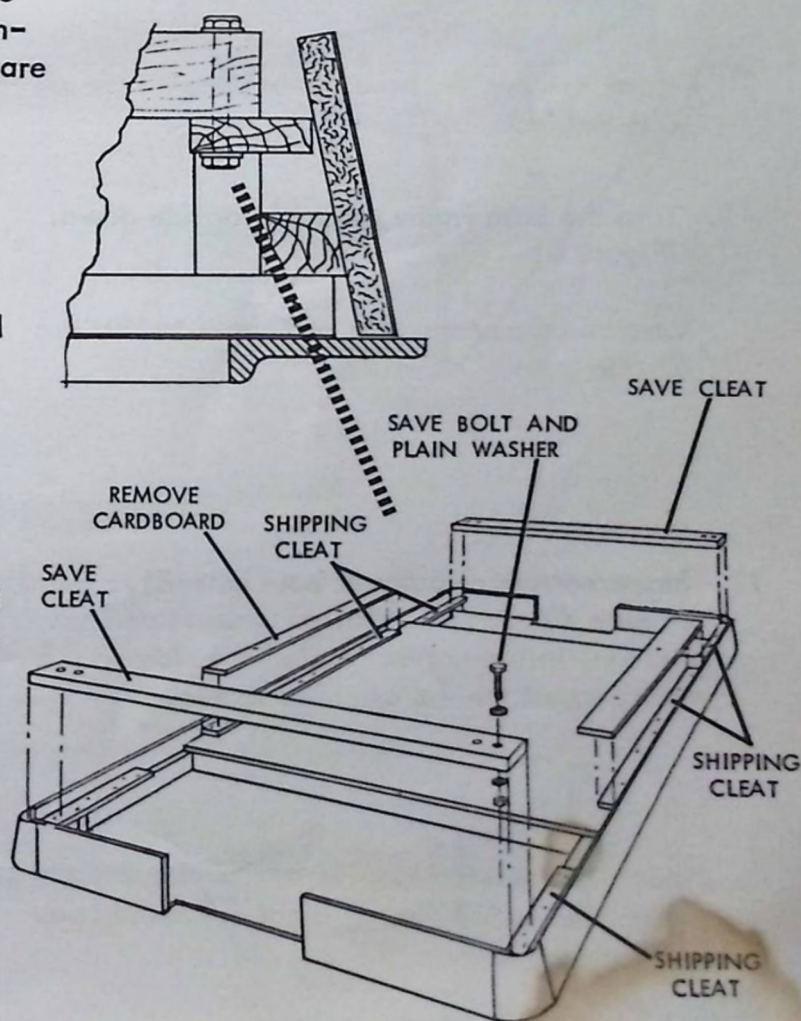

FIGURE 6
6. Open the bed and apron assembly carton, and remove the cardboard on each side centered on the bottom of the bed. (Figure 6)
7. Remove the two (2) cleats located at each end of the bed. (Figure 6) Save the two (2) cleats along with the bolts and one flat washer per bolt for assembly on the base frame.
8. The remaining shipping cleats can be left in place to strengthen the aprons on any future movement of the table. (Figure 6)